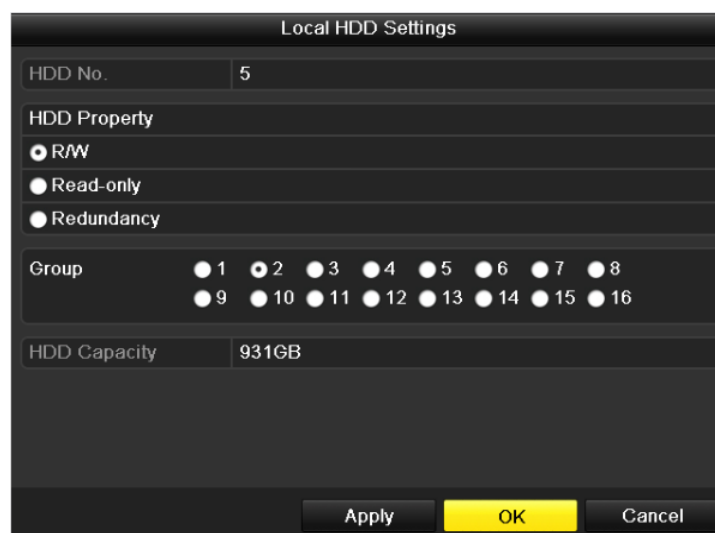

Figure 10.14 Local HDD Settings Interface
6. Select HDD from the list and click  icon to enter the Local HDD Settings interface, as shown in Figure 10.14.